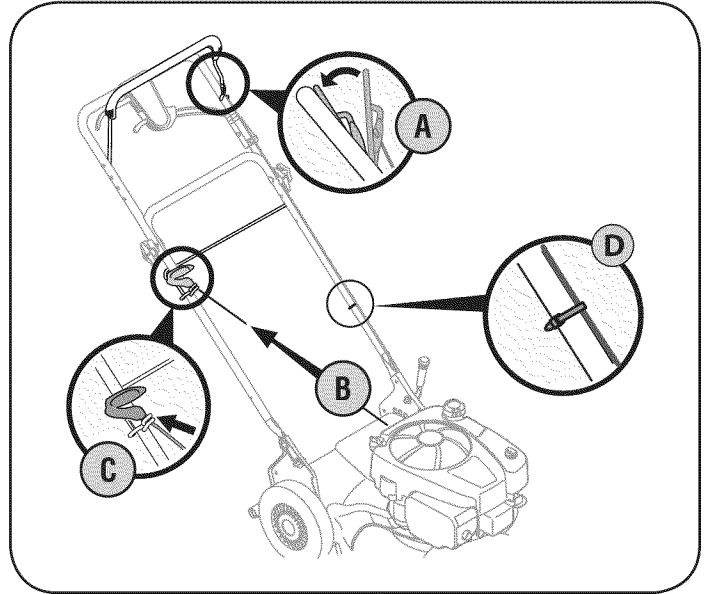

Figure 3
- The rope guide, which is connected to the support rod, is located on the right side of the lower handle. See Figure 3 below.